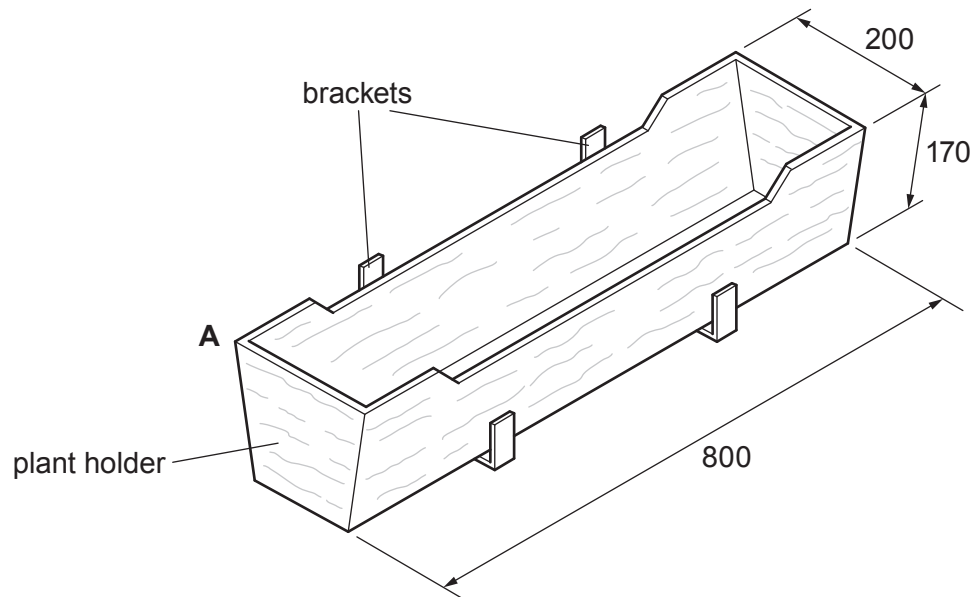

Fig. 13.1
- 13** Fig. 13.1 shows a plant holder and the brackets that will support it on a wall. The sides and ends of the plant holder are made from 15 mm thick hardwood and its base from 10 mm thick manufactured board. The brackets are made from mild steel.